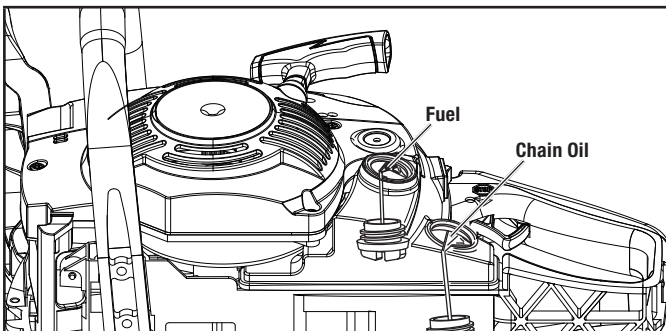

Figure 2
2. Remove the fuel cap (Fig. 2).